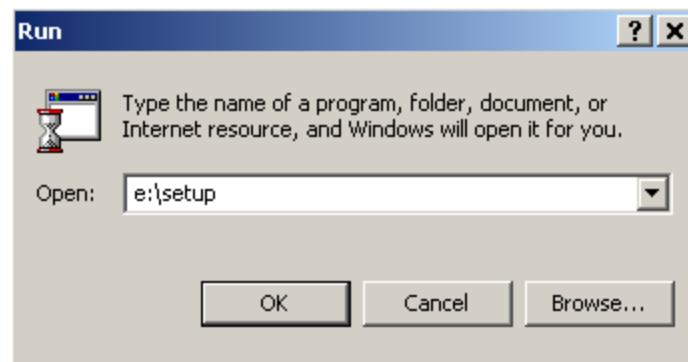

Figure 1.6 Run Command
4. Type **e:\setup** in the **Open** field and click on **OK** (see Figure 1.6). The letter “e” in the command is the letter of the CD drive in which you inserted the CD-ROM. If your CD drive is a letter other than “e,” type that letter followed by **:\setup**.